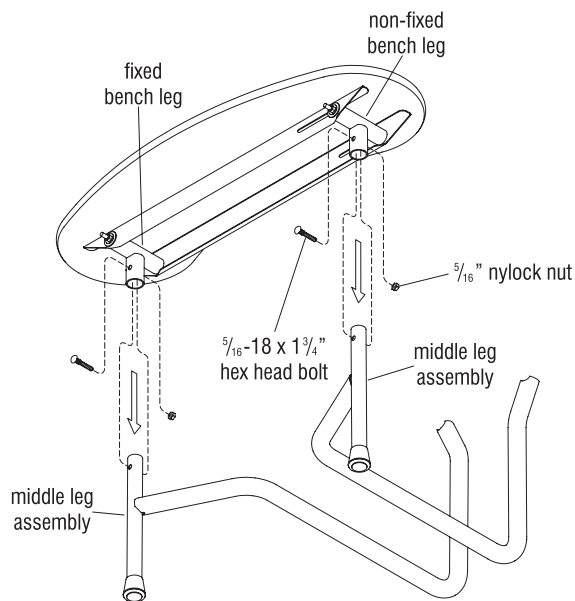

Figure 7
3. Once the table is in the storage position, attach the "fixed bench leg" to the table's middle leg assembly. Next, slide the "non-fixed bench leg" on the opposite end of bench into position so that tube can be inserted inside the upright of the other middle leg assembly (Figure 7).
4. Fasten down the bench to the table leg using a supplied $\frac{5}{16}$ " bolt and nylock nut. Tighten nut and bolt until the nut stops against the pipe. The parts will need to rotate during the opening and closing of the table so make sure not to over-tighten. Bolt head must be face away from the table (Figure 7).
5. Next, align the hole of the "non-fixed bench leg," to the table's mid leg. Fasten the bench down to the table leg using a $\frac{5}{16}$ " bolt and nylock. Tighten nut and bolt until the nut stops against the pipe. The parts will need to rotate during the opening and closing of the table so make sure not to over-tighten. Bolt head must be face away from the table (Figure 7).